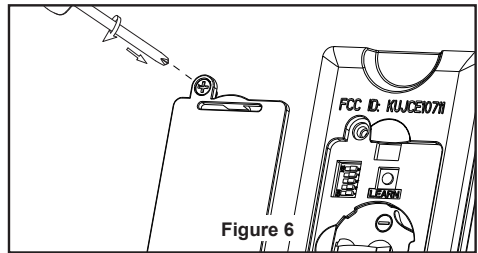

Figure 6
- ☐ 6. Assemble the LED assembly to the switch housing assembly using the two key slots. Replace the removed screw and secure all three screws. (Figure 6)
6. Replace battery cover on the remote control and secure with the previously removed screw. (Figure 6)